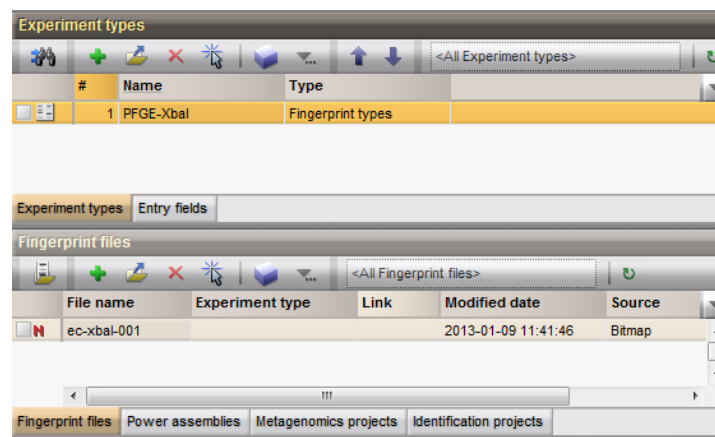

Figure 5: The *Experiment types* panel and *Fingerprint files* panel.
The gel image is now available in the *Fingerprint files* panel (see Figure 5). The file is marked with a red "N" (N) indicating that the image has not been processed yet.